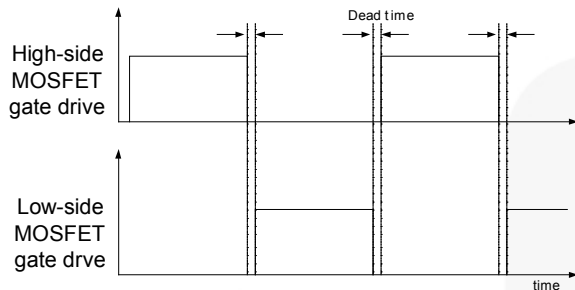

Figure 16. MOSFETs Gate Drive Signal
**1. Basic Operation:** FAN7621B is designed to drive high-side and low-side MOSFETs complementarily with 50% duty cycle. A fixed dead time of 350ns is introduced between consecutive transitions, as shown in Figure 16.